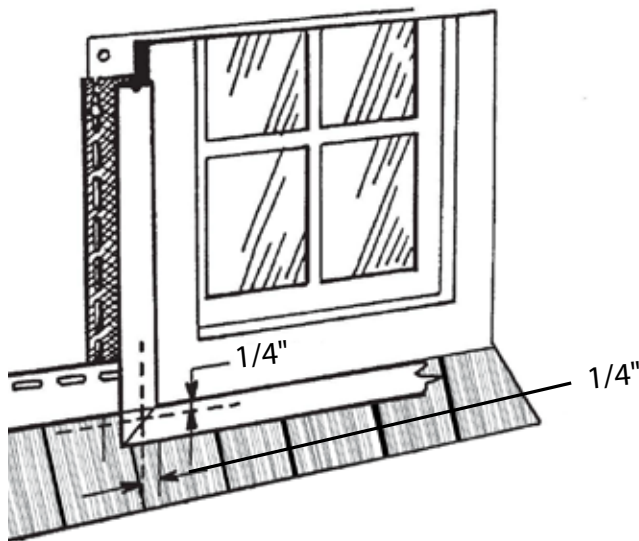

FIGURE 16
- The Utility Trim should have a 1/4" (6.4 mm) space from the edge of the J-Channel (**FIG 16**).